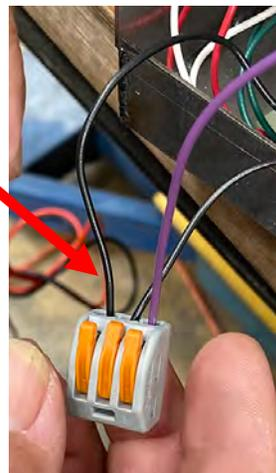

Figure 9
11. Insert the two black wires from the previous step and the stripped end of the purple wire from step 5 into the 3-position Wago snap connector (see Figure 9). Ensure the Wago snap connector is completely snapped closed. Pull gently on the wires to ensure they are secured into the connector. **(See using Wago Connectors below)**